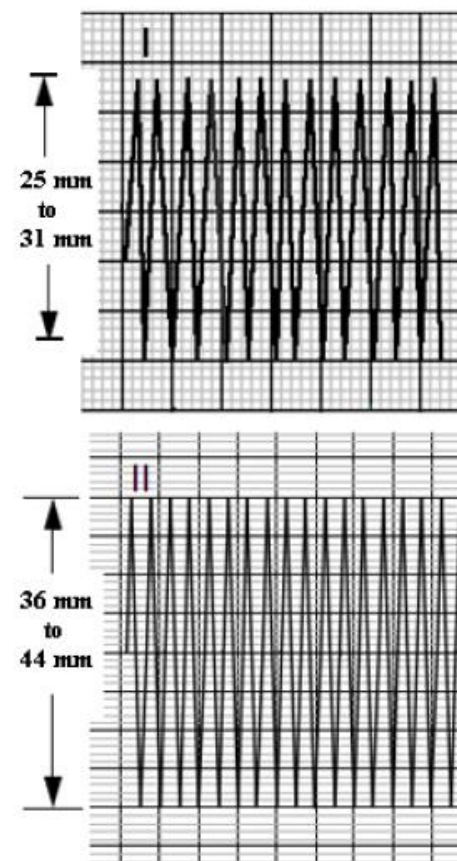

Figure 1.38—Signal amplitude for 2-lead gain test
4. Print five seconds of ECG Lead I and confirm the printed signal amplitude is 25 mm to 31 mm, peak-to-peak, as shown in Figure 1.38.